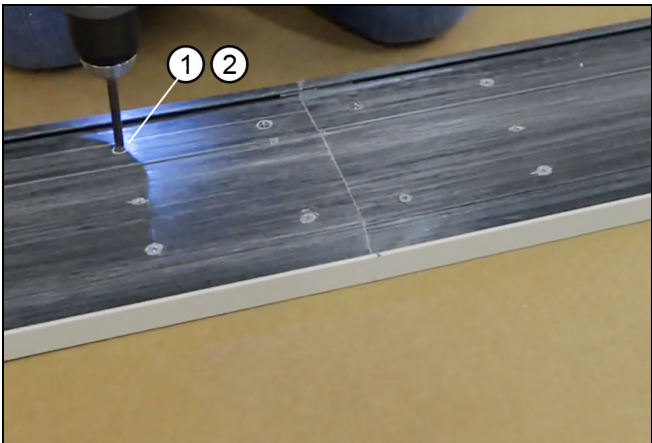

Figure 17 Performance sill shown
5. Fasten the spliced sill using self drilling screws. See Figure 17.